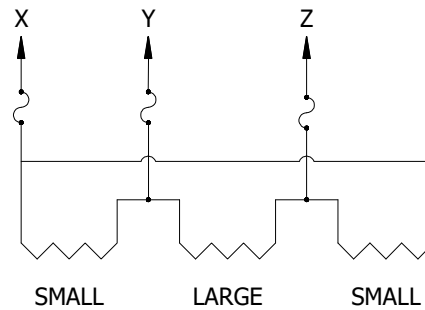

FIGURE 2
B. REFERRING TO FIGURE 2, FIND SMALL TRANSFORMER SIZE IN COLUMN 5 OF THREE PHASE TRANSFORMER FUSE SIZING TABLES. FUSE SIZE OF PHASE "X" IS LOCATED UNDER COLUMN 6. FIND LARGE TRANSFORMER SIZE IN COLUMN 7. FUSE SIZE FOR PHASES "Y" AND "Z" IS LOCATED IN COLUMN 8.